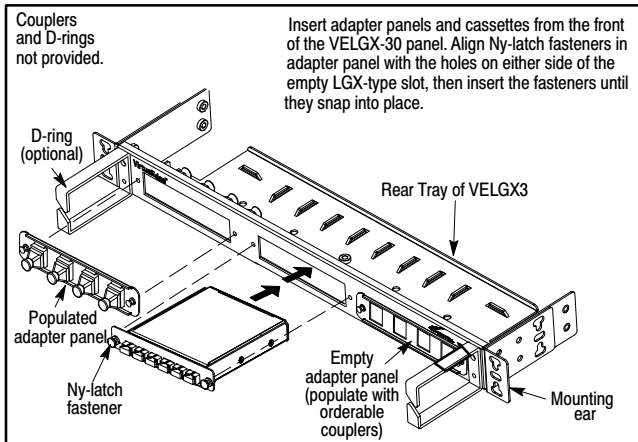

Figure 4. Inserting Adapter Panels and Fiber Cassettes
3. Align the two, plastic, Ny-latch fasteners on each side of the cassette or adapter panel with the holes at both sides of the empty LGX-type cut-out position on the panel. Insert the fasteners into the holes, and press them until they click, snap, or lock in place. Verify the adapter panel is securely attached to the panel (see Figure 4).